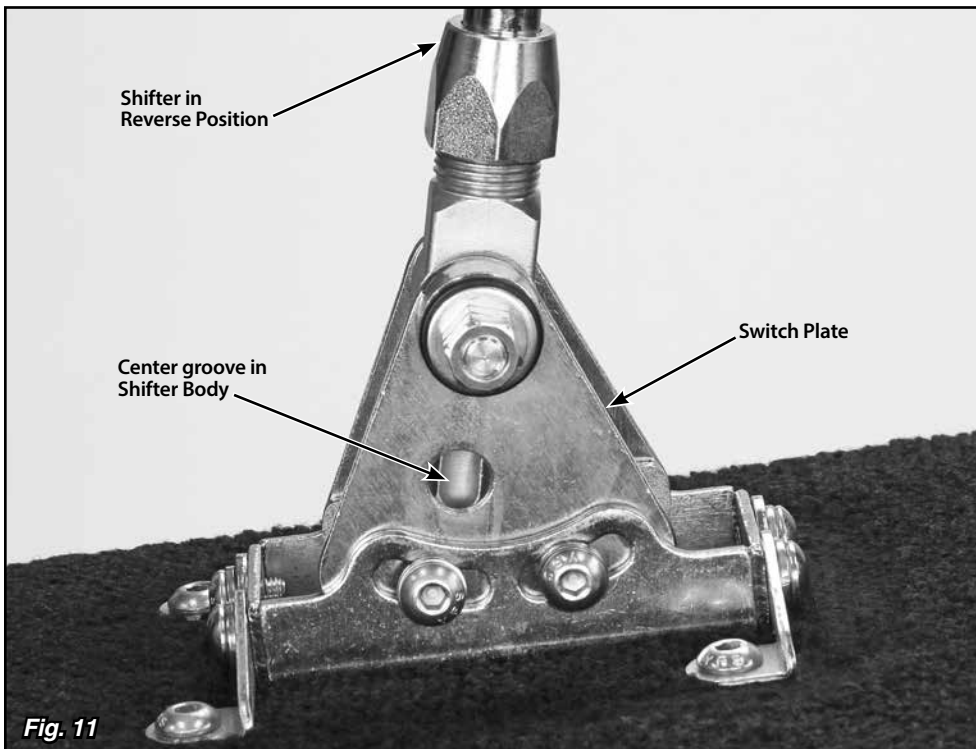
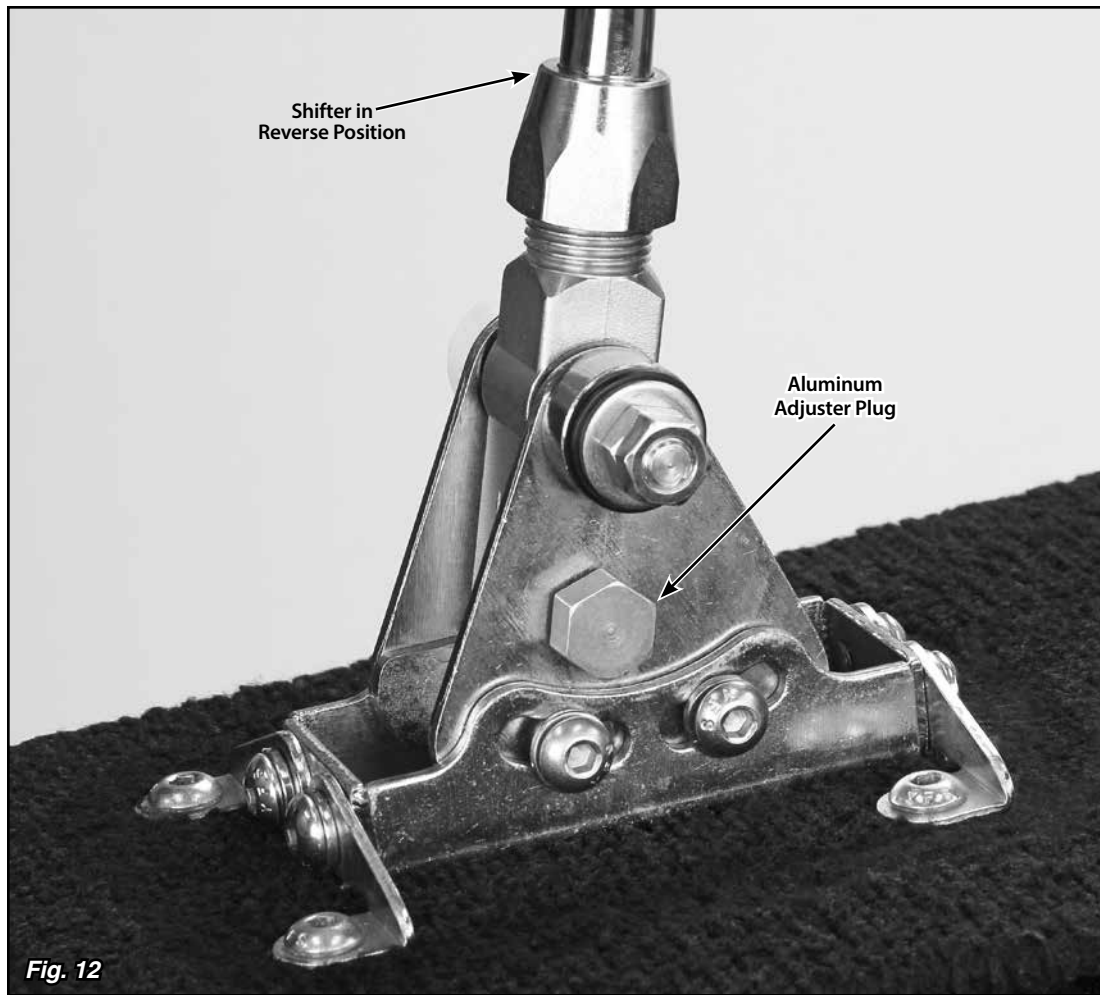

Fig. 11
Fig. 12
Step 17: Put the shifter into the Reverse position. Reposition the switch plate so the hole in the switch plate lines up with the center groove in the shifter body. **Fig. 11** Screw the provided aluminum adjuster plug into the neutral safety switch opening. Moving the switch plate slightly forward and back while you are screwing the aluminum adjuster plug in will help get the shifter body centered on the adjuster plug. **Fig. 12**